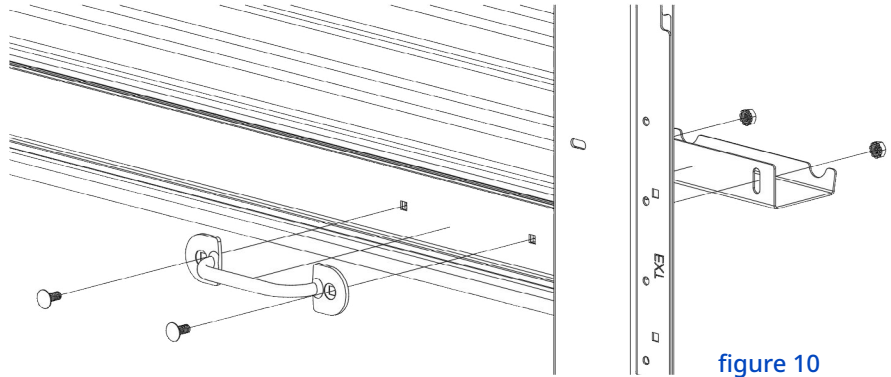

figure 10
- ✦ Install handle(s) on outside of bottom bar using $\frac{1}{4}$ - 20 x $\frac{5}{8}$ " carriage bolts and keps nuts. See **Figure 10**.